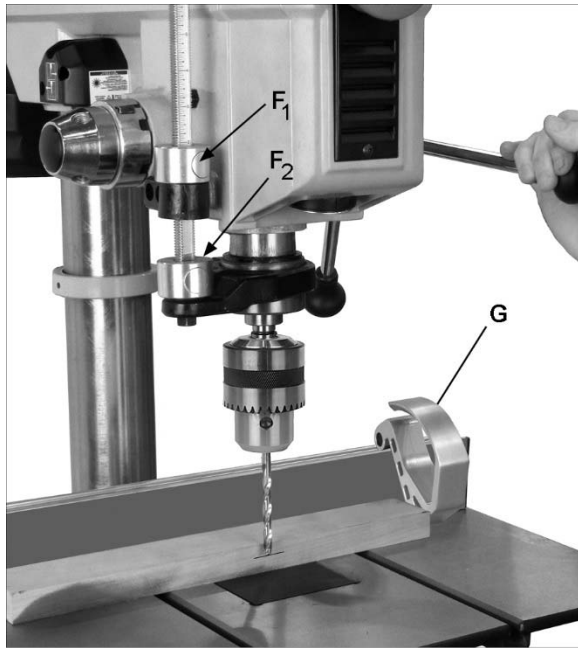

Figure 19
Referring to Figure 19:
3. For less precise drilling, simply lower bit to desired depth, as shown in Figure 19, and slide top nut down to contact collar.
The work stop (G, Figure 19) is used for repetitive drilling in boards of identical length. Flip up the work stop to slide it along the fence or to remove it. Pull it down to tighten in position.